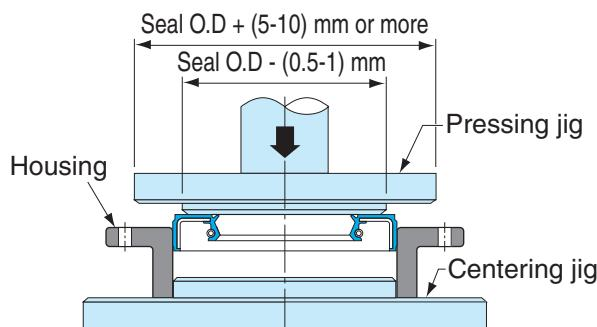
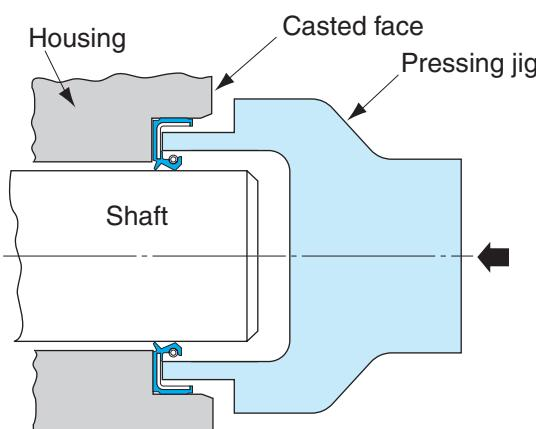

Fig. 1.7.3 Recommended seal press-fitting jigs
Fig. 1.7.4 Seal press-fitting jig for shouldered housing bore in the opposite direction
6) When seal is pressed into housing bore, use pressing jig as shown in Fig. 1.7.3. When press-fitting an oil seal into the housing bore in the opposite direction, use the pressing jig as shown in Figs.1.7.4 and 1.7.5.
Seal press fit at a slant may cause the fit surface to have tear or scuffing and leakage. To ensure good sealing performance, seals need to be mounted at right angles to shafts. For right angled mounting , press the seal down thoroughly to reach the housing shoulder (Fig. 1.7.4).